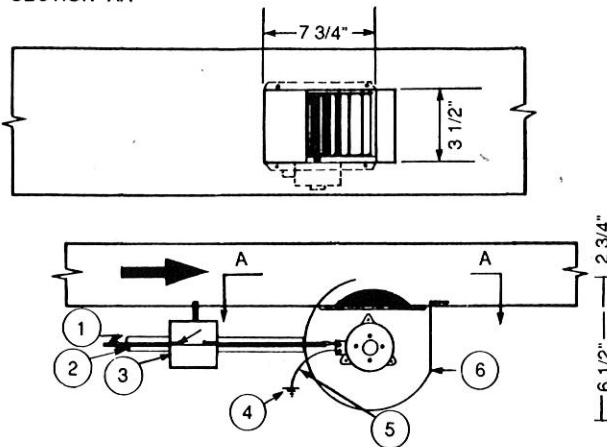

FIGURE 1
- A. By using an on/off switch and power source of 120V, 60Hz (Fig. 1)
C. By using a thermostat and a power source of 120V, 60Hz. The thermostat should be on the duct between Booster Fan and furnace; this way when the furnace provides warm air the duct thermostat is turned on and the Booster Fan gets started (FIG 1)